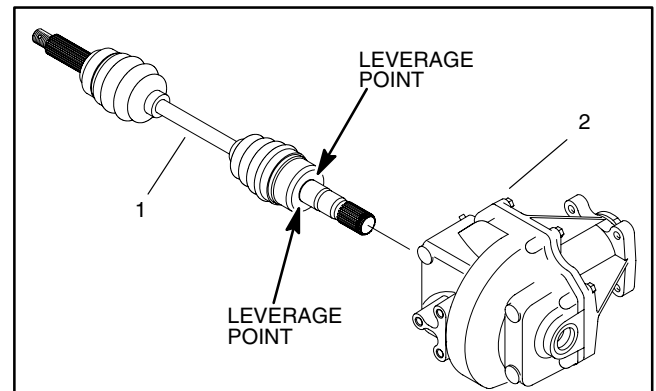

Figure 9
2. Use two small pry bars (180° apart) to leverage the CV joint out of the front differential. Use even pressure on both pry bars (Fig. 9).